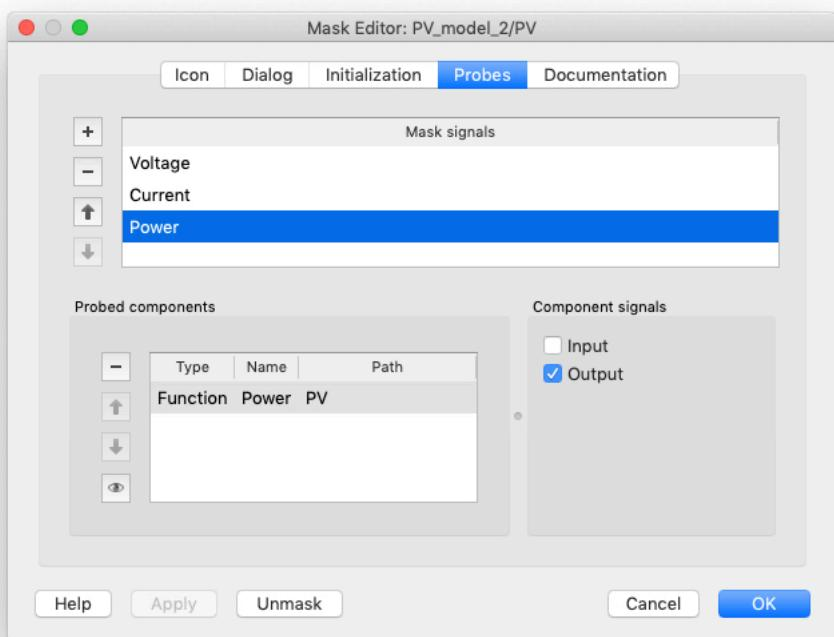

Figure 6: Create probe signals using the Mask Editor
- 3 Under the **Probes** tab of the Mask Editor window, the custom probe signal list can be created. Click the **Add** button to define a new probe signal and name this **Voltage**. Then drag in the Voltmeter block, “Vm1”, from your subsystem into the box labeled **Probed components** and check the **Measured voltage** signal in the **Component signals** list. Repeat this procedure to add probe signals for Current and Power. When creating the power signal, you will need to drag the power calculation function block into the **Probed components** window and check the **Output** box. At this stage, your Mask Editor window should be similar to that shown in Fig. 6.